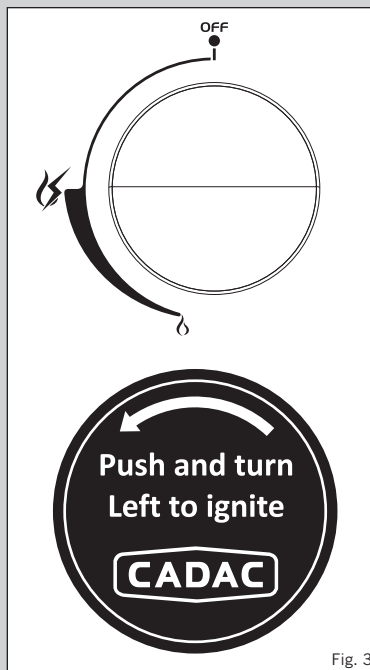

Fig. 3
- Use the control knobs to adjust the individual burner flame intensity to the desired level by turning the knob anti-clockwise to decrease the flame and clockwise to increase it (see Fig. 3).